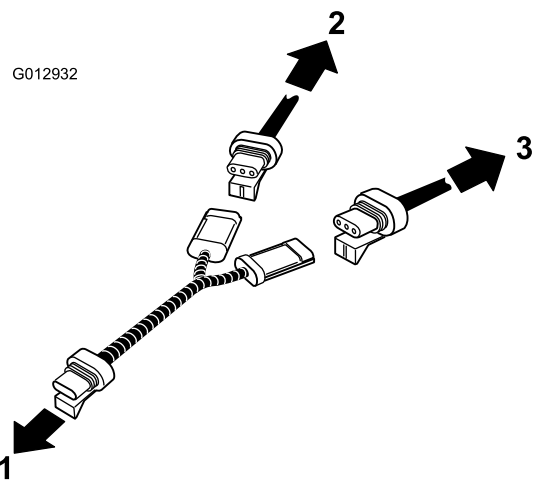

Figure 14
17. Install the Y-shaped jumper harness between the speed sensor and the existing and spray wiring harnesses. Connect the speed sensor to both the existing wire harness and the spray system wire harness (Figure 14).